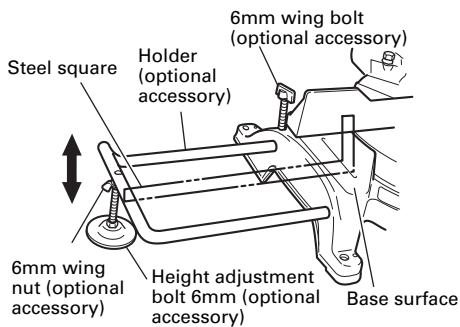

Fig. 9
- (1) As indicated in Fig. 9, use a steel square for aligning the upper edge of the holders with the base surface. Loosen the 6mm wing nut. Turn a height adjustment bolt 6mm, and adjust the height of the holder.
- (2) After adjustment, firmly tighten the wing nut and fasten the holder with the 6mm wing bolt (optional accessory). If the length of Height Adjustment Bolt 6mm is insufficient, spread a thin plate beneath. Make sure the end of Height Adjustment Bolt 6mm does not protrude from the holder.